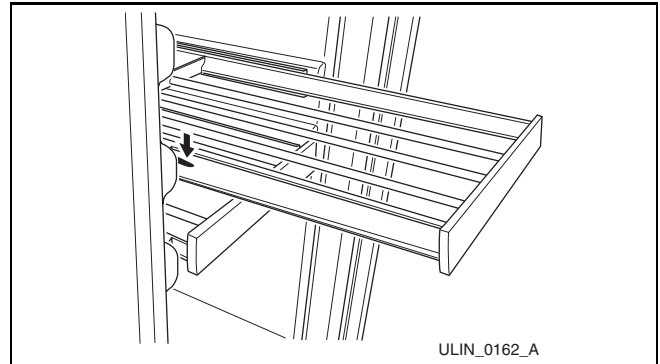

Figure 16
3. Press the left rack release lever (**Figure 16**) down, and at the same time, lift the corresponding right rack release lever up, and pull the rack out until it is free of the tracks and the cabinet.